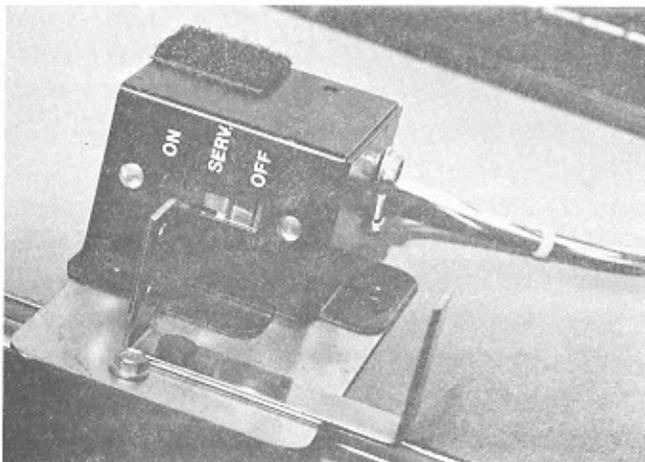

Figure 3-1. Service Switch
2. Move the SERVICE switch to the SERVICE position (Refer to Figure 1-1 and Figure 3-1.):